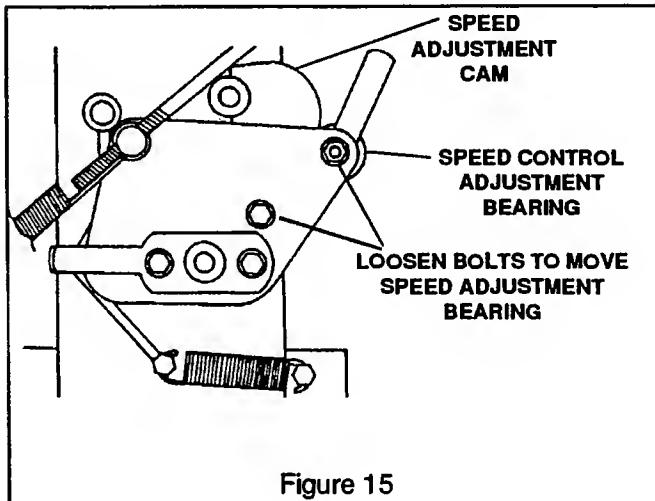

Figure 15
1. Loosen the two bolts securing the speed adjustment bearing to the bellcrank. (See figure 15)
3. Place the speed adjustment bearing where it just contacts the speed adjustment cam. (See figure 15)
8. If the machine pulls to the left, on the left side of the bellcrank, loosen the two securing bolts and move the adjustment bearing $1/16$ " away from the cam and retighten the bolts. Restart engine and check for tracking straight. (See figure 15)